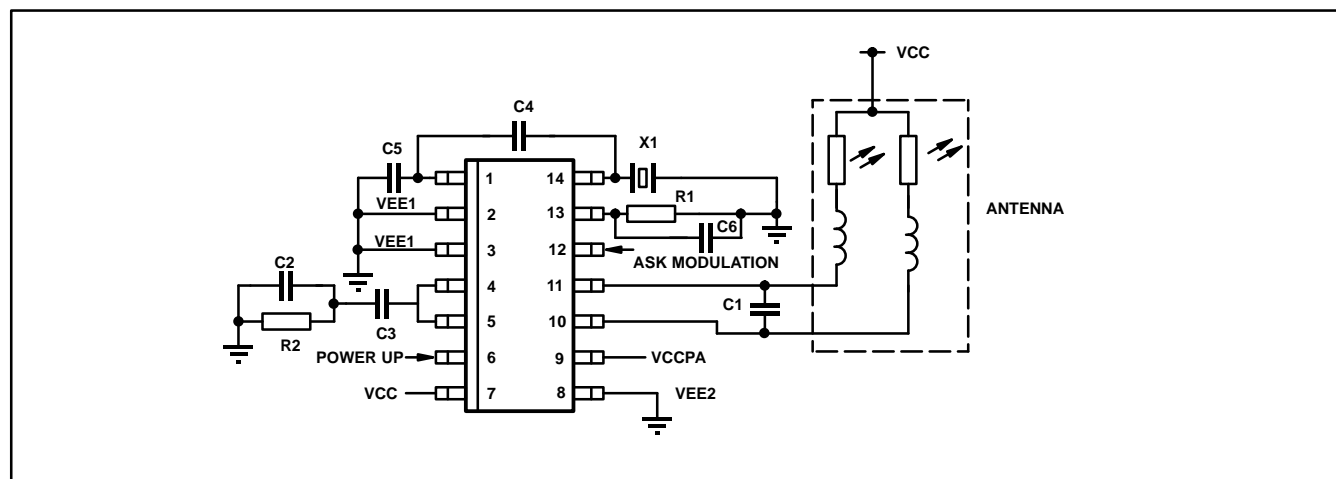

Fig. 6 Application diagram
4. Regulatory issues demand that transmission does not take place until the PLL has acquired lock and the VCO is operating at its final output frequency. This requirement demands that pin TXEN is set high at least Txe ms prior to the transmission of any data. This value is dependent on the PLL loop bandwidth and hence on the value of the external loop filter component values. The specification value above is for the loop filter components shown in the applications diagram (Fig. 6)
A differential crystal oscillator provides a reference clock for the PLL. The oscillator is configured for parallel resonant operation in the fundamental mode (typical operating frequency of 3–7MHz) and the crystal used should be specified for parallel resonance. The crystal is connected between pins XTAL1, XTAL2 with external components as shown in Fig.6.
The IC is capable of directly interfacing to a PCB loop antenna as shown in the applications diagram (Fig. 6). However some considerations have to be borne in mind.